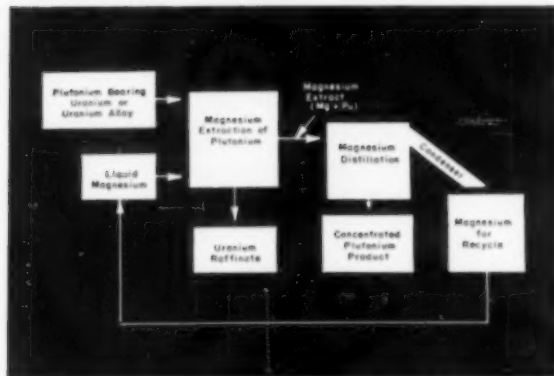

Fig. 1. Schematic flow sheet for magnesium extraction of plutonium.
A promising high-temperature process for separation of plutonium from nuclear reactor core and blanket materials is the extraction of plutonium from the melted materials with molten magnesium. This process was first described by Lawroski (1) and Motta (2), and the purpose of this paper is to report subsequent work at Argonne National Laboratory, which has brought it into a pilot plant stage of development. The principles of the process are illustrated by the schematic flow sheet shown in Figure 1. In essence, the process consists of extraction of plutonium from molten uranium into molten magnesium and subsequent distillation of the magnesium away from the extracted plutonium.